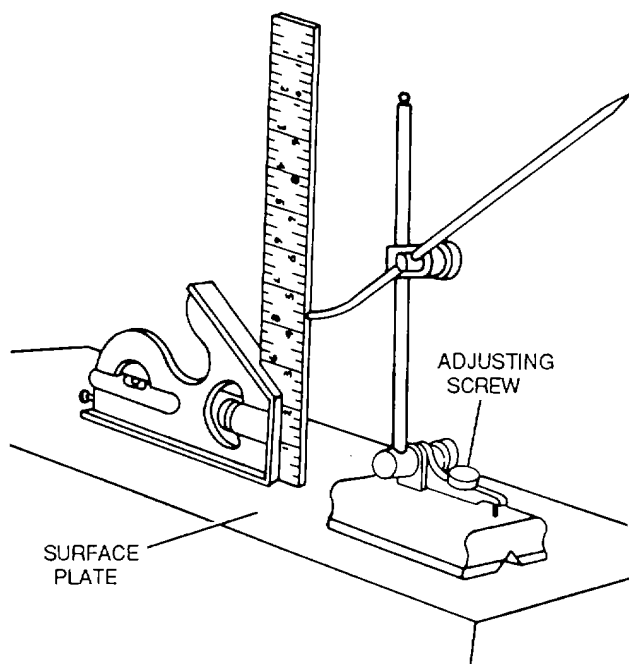

Figure 3-46. Setting Height on a Surface Gauge
(1) Wipe off the top of a layout table or surface plate and the bottom of the surface gauge.
(2) Place the squaring head of a combination square on a flat surface as shown in figure 3-46.